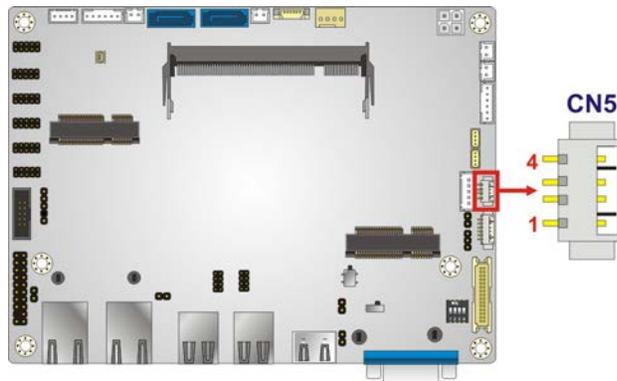

Figure 3-17: LVDS LED Connector Location
- CN Location:** See **Figure 3-17**